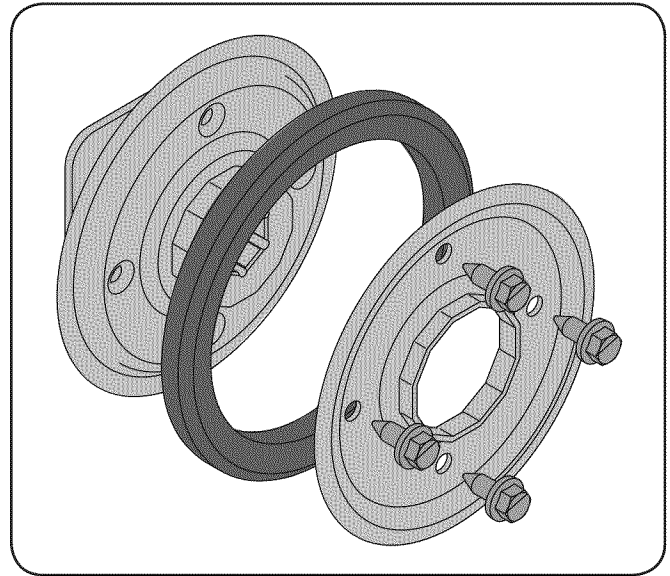

Fig. 7-11
- Remove the four screws which secure the friction wheel's side plates together. See Fig. 7-11.